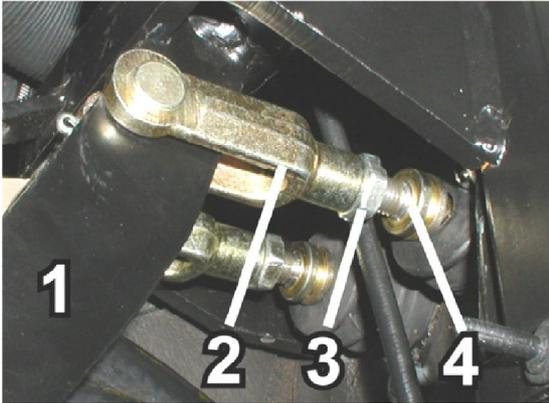

Fig. 5.12. Service break adjustment.
If the free travel is out of the limits, as given above, or the braking performance of wheels is uneven, adjust the brakes by screwing the brake pump push rod fork in or out (Fig. 5.12)
- unlock the locknut (3-Fig. 5.12),
- adjust by turning push rod (4-Fig. 5.12) in brake pump fork (3-Fig. 5.12) so that there is a free travel at the pedal of 20 to 25 mm,
- lock the locknut (3-Fig. 5.12),